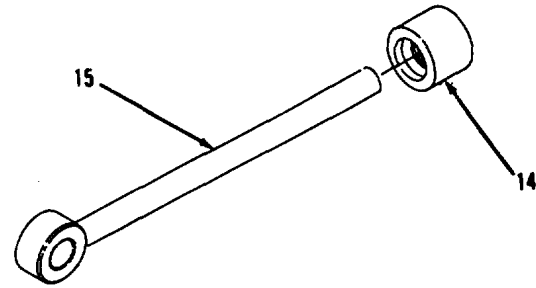

Figure 17-34.
8. Separate crown (14) and rod (15, Figure 17-34).
1. Install crown (14) on rod (15, Figure 17-34).